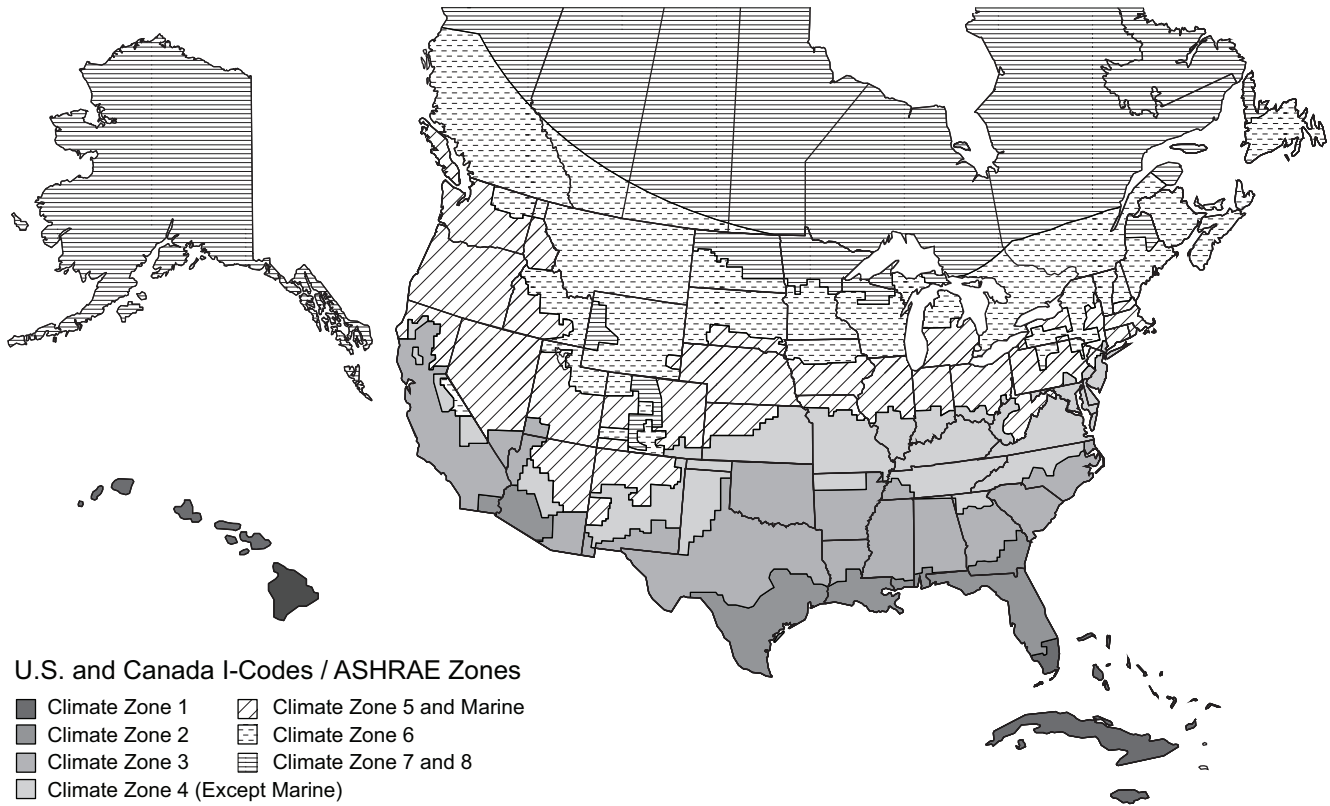

Fig. 88 — U.S. and Canada Climate Zones
- a. See Fig. 88 for map of U.S. and Canada climate zones.